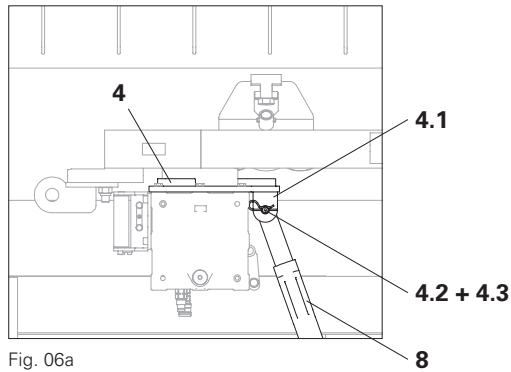

Fig. 06a
1. Attach Push-Pull Prop RS 210 (**8**) to the lug (**4.1**) of Adapter Plate H60 VGB (**4**) with bolt \varnothing 16 x 65/86 (**4.2**) and cotter pin 4/1 (**4.3**). (Fig. 06a)